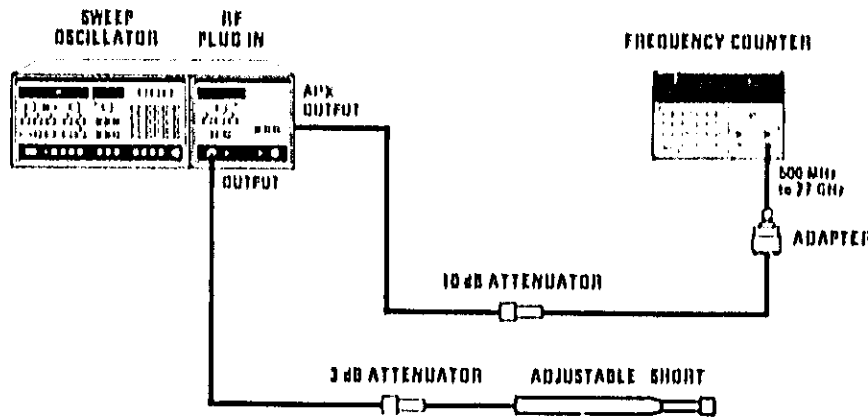

Figure 4-6. Frequency Change with 3:1 Load SWR Test Setup
12. Connect equipment as shown in Figure 4-6. Press the 8350A INSTR PRESET , CW 6 GHz , then POWER LEVEL 1 0 dBm .